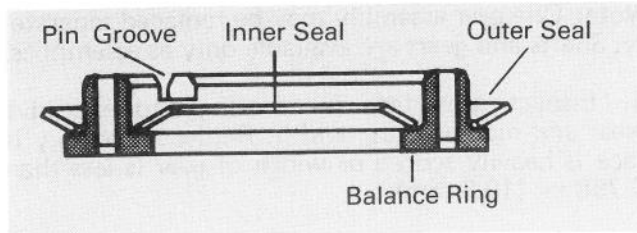

Figure 103
17. Apply petroleum jelly to inner and outer face seals. Install seals on balance ring as shown in Fig. 103.
**IMPORTANT:** Install face seals in the positions shown in Fig. 103, or the motor will not operate properly. Do not force or bend the face seals. Any damage to these seals will affect the operation of the motor.